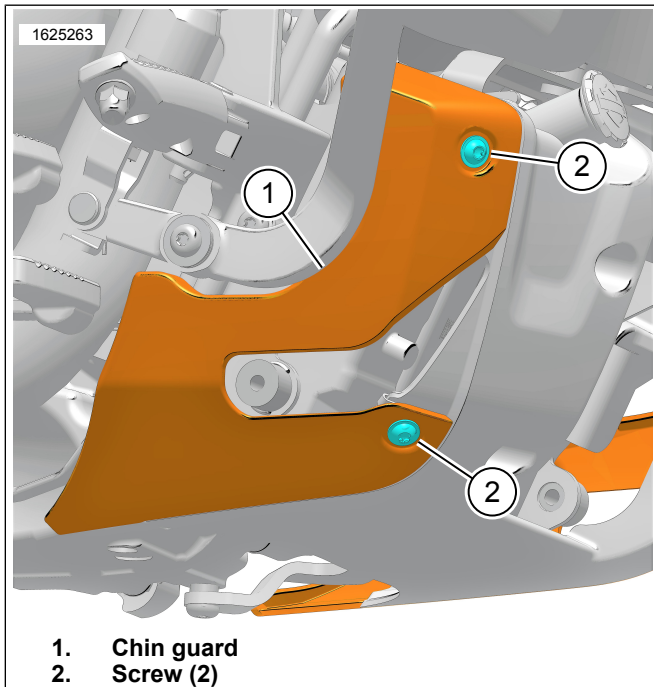

Figure 2. Chin Guard Installed
1. See Figure 2. Install right chin guard (1).
2. See Figure 2. Install OE screws (2). Tighten.